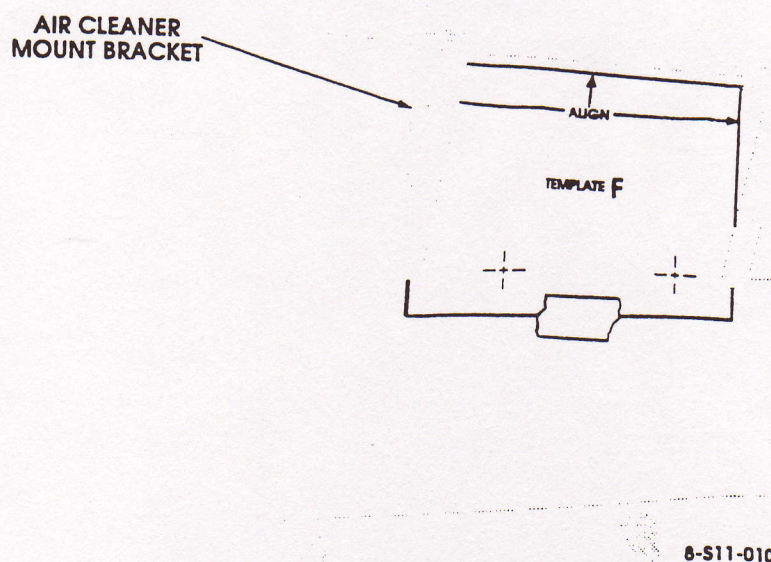

Figure 9: Lower Mount Bracket Template "F".
33. Position the lower HVAC mount bracket template "F" between the inner and outer air cleaner mount brackets and up against the body seam flange and centerpunch two points for the lower HVAC mount bracket (See Figure 9).